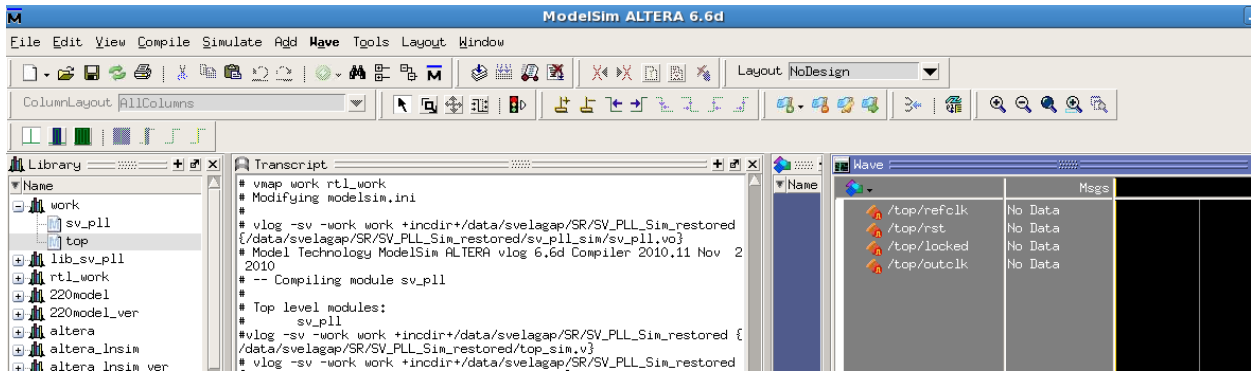

Figure 3
- a. Specify the input test vectors for the module. For example in the design module “top” as shown in Figure 3, `ref_clk` and `rst` are the inputs. We need to specify the input vectors for these signals.